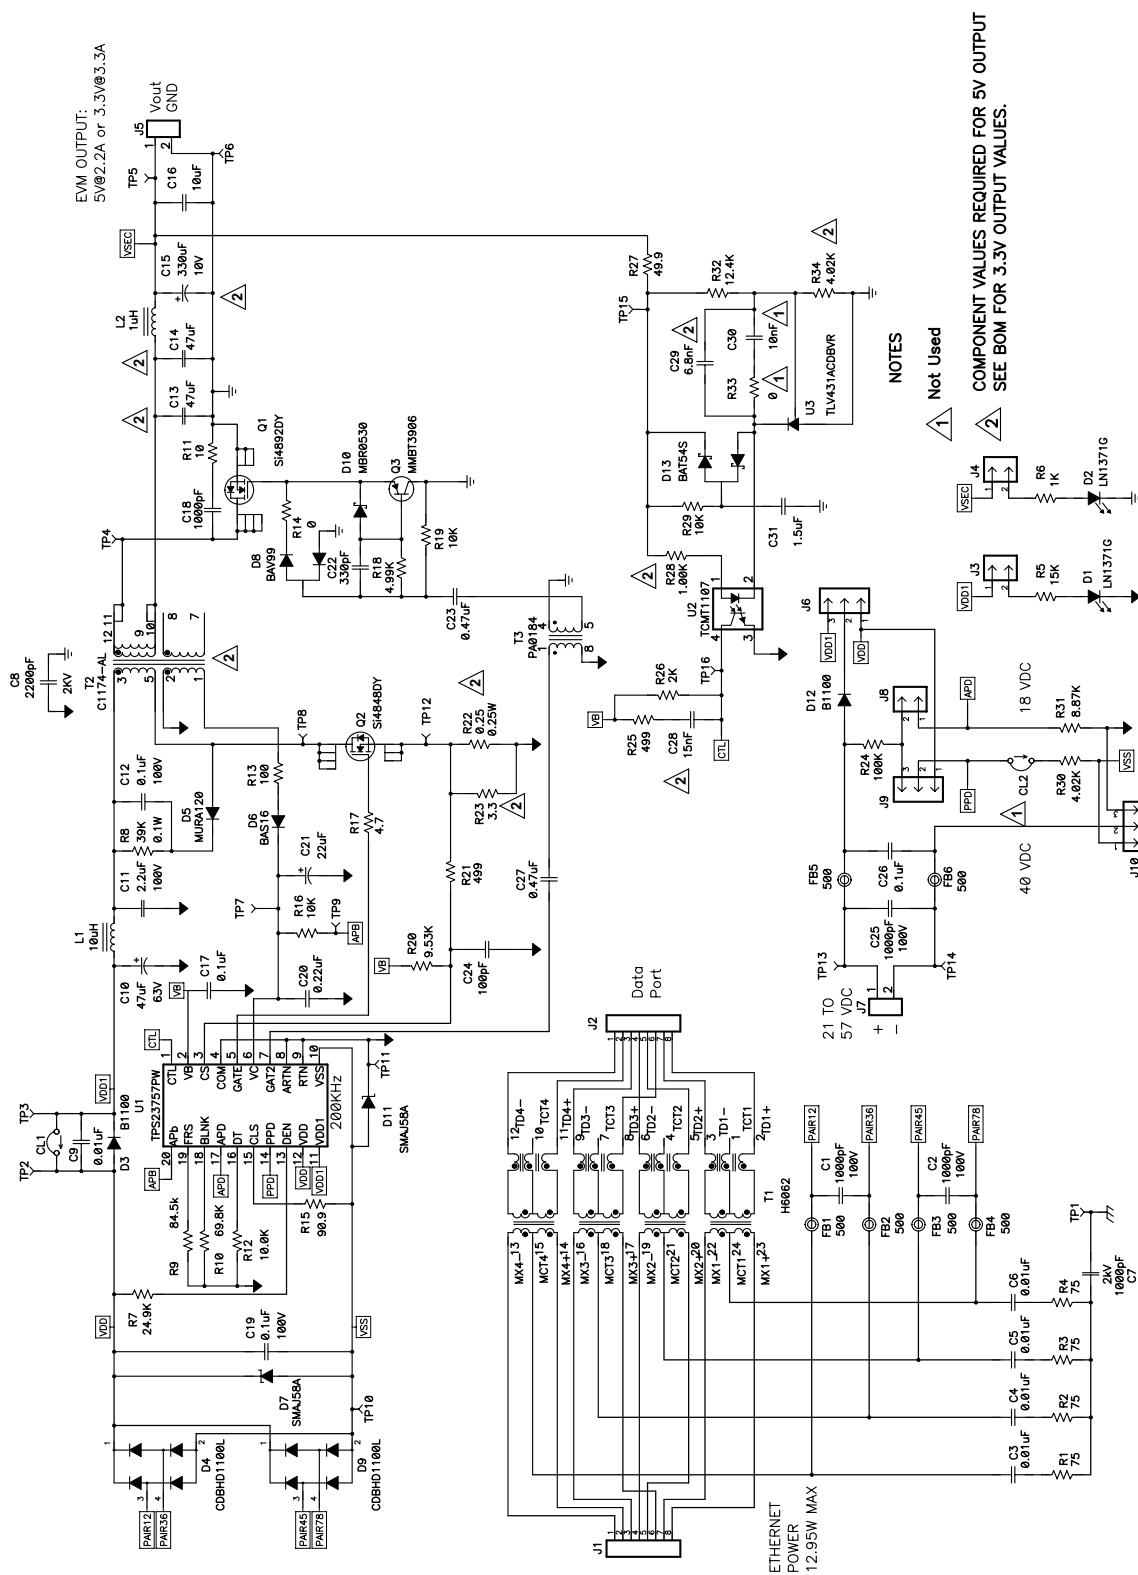

Figure 1. TPS23757EVM Schematic
- NOTE:** Only the 5-V version is orderable. The 5-V version can be converted to the 3.3-V version using Figure 1 and Table 5 as a reference.